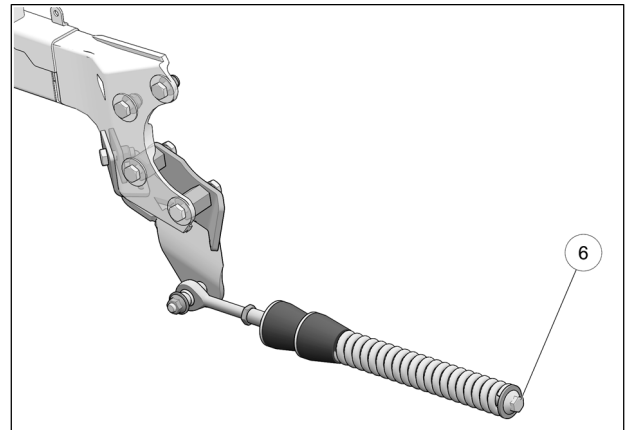

Fig. 12
12. Verify that spring assembly bolt (6) is tightened to the recommended torque specification: 75 N•m [55 lb•ft]. Refer to Fig. 12